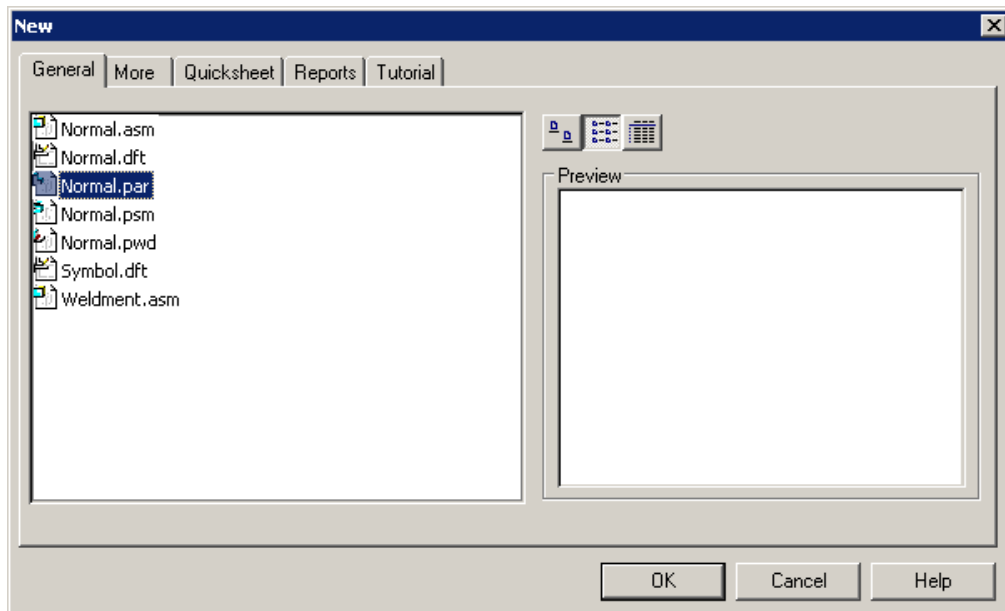

Figure 2-31 The New dialog box to start a new file in Solid Edge
2. Select **Normal.par**, as shown in Figure 2-31, and choose **OK** to start a new part file.